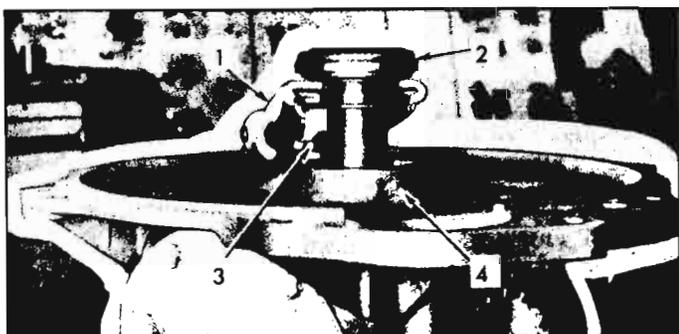

Fig. 6B-4—Removing Clutch Release Bearing
3. The clutch fork, ball stud and clutch release bearing is removed with the axle housing as shown in Figure 6B-4.